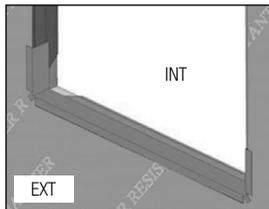

FIG. 9
D) Apply sill flashing to the rough opening as shown below. (Fig. 9)